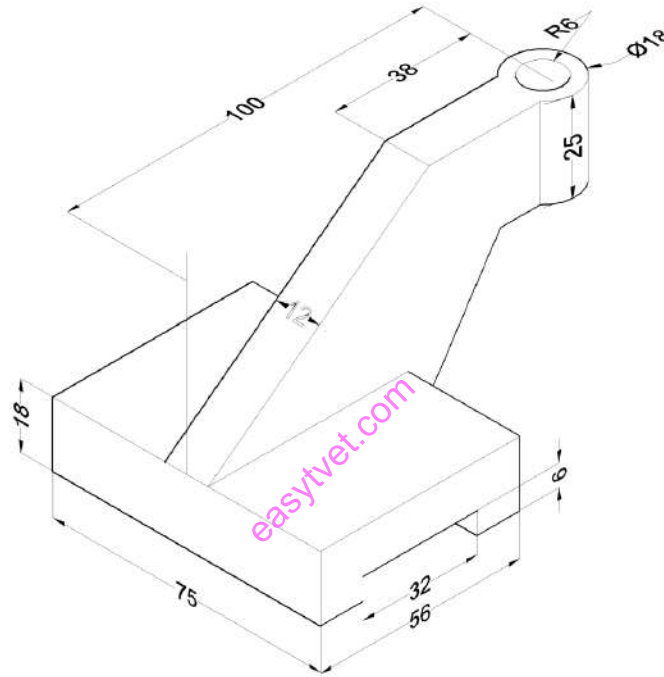

Figure 2
10. Figure 2 shows a mechanical component, draw the following in first angle projection